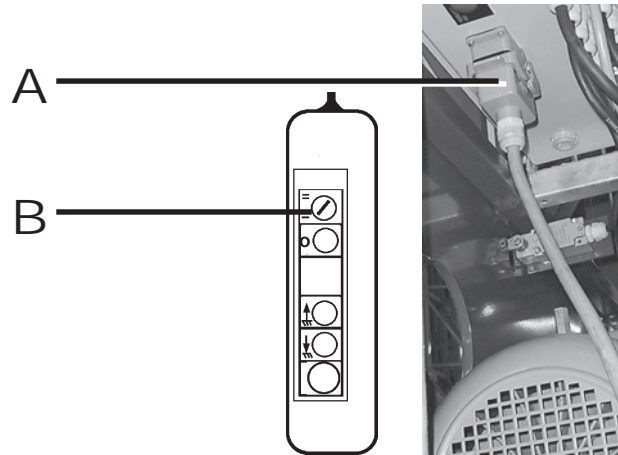

Fig.9-05 Fail safe brake remote control
3. Remove the dummy plug and connect the remote control (fig.9-05, B) to the fail safe brake socket (fig.9-05, A).